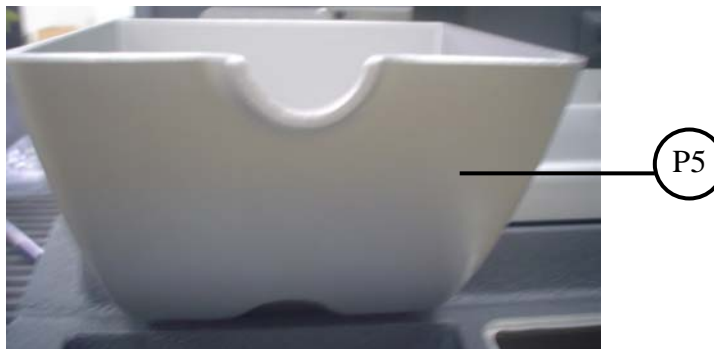

Fig.31
- Insert the key box (P5) in the holder (Fig.31)